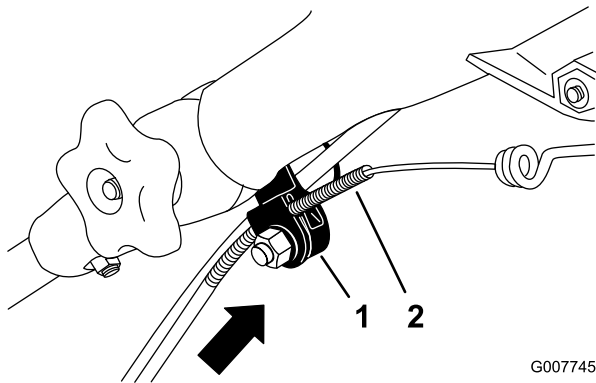

**Figure 47**
3. Pull the cable jacket downward until you remove the slack in the exposed cable (Figure 47).